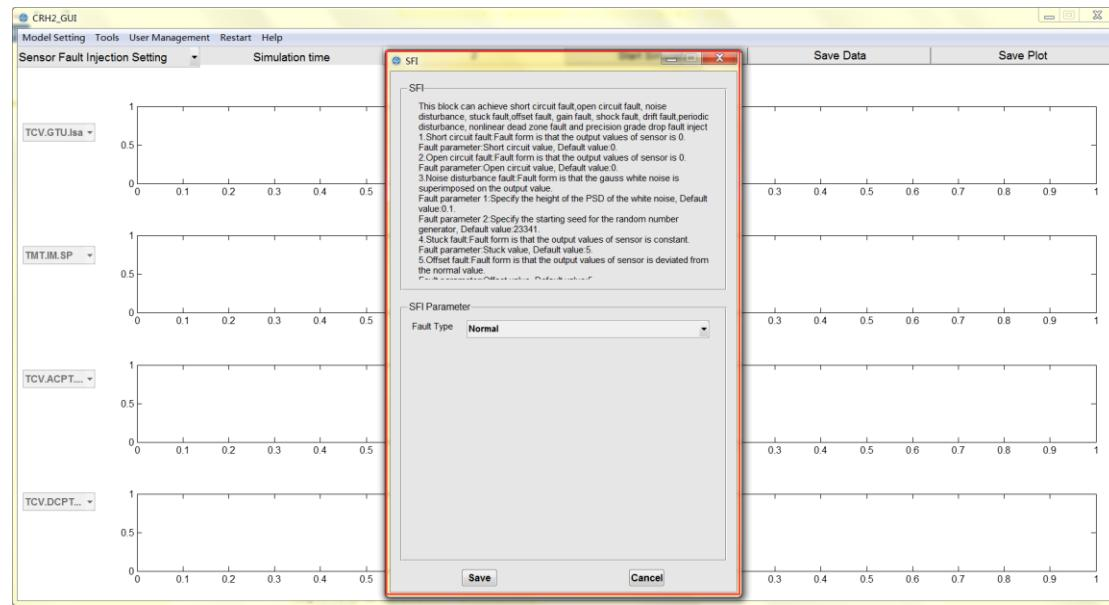

Fig. 51 Sensor fault injection setting
⑧ After the simulation, the user can find the corresponding file under the corresponding folder to view the simulation results.
- ① Select the ‘Sensor Fault Injection Setting’, then will pop-up sensor fault injection location interface as shown in Fig. 51.